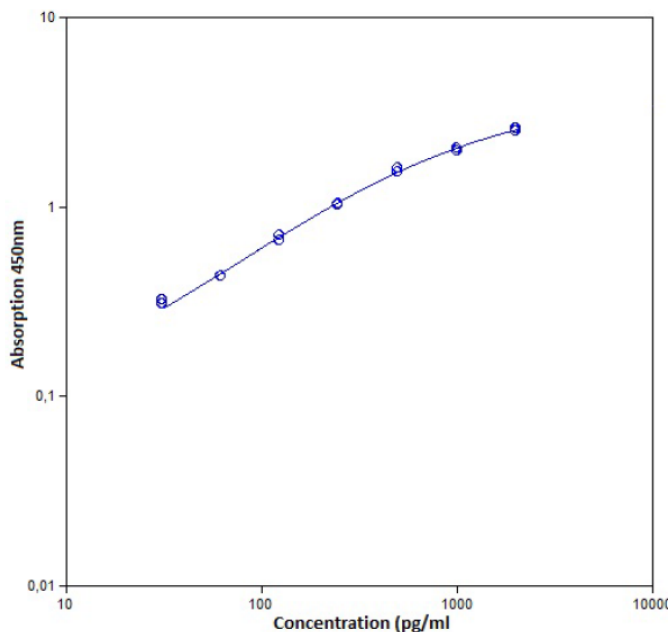

Fig. 7 Representative standard curve for mouse TNF alpha ELISA. Mouse TNF alpha was diluted in serial 2-fold steps in Sample Diluent.
- A representative standard curve is shown in Figure 7.